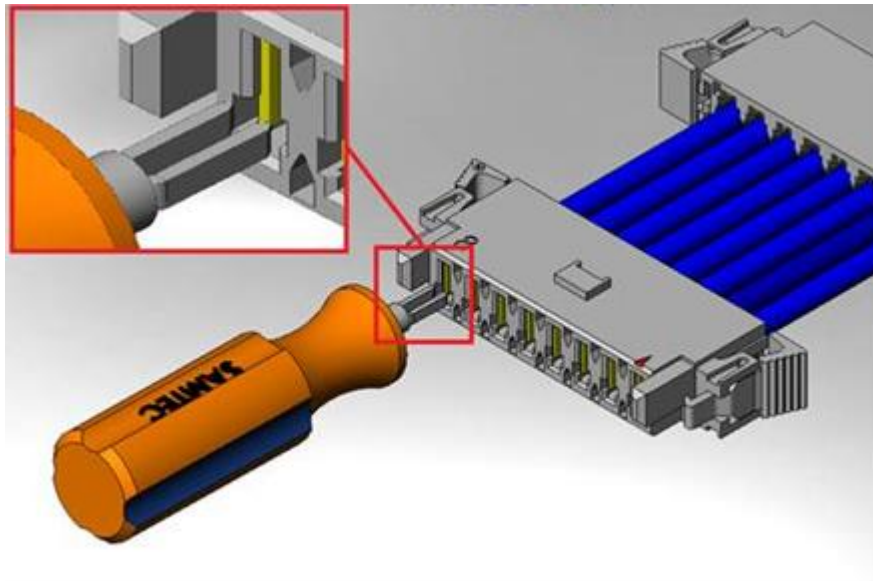

FIGURE 2
The Power Strip contact has a retaining barb that can be released through the housing side channels as shown in **Figure 2**. The Extraction Tool is inserted into the channel until the tool bottoms out to compress the contact and disengage the barbs for the contact removal.
1. Line the tines of the tool with the side channels of the housing as shown in **Figure 2**.